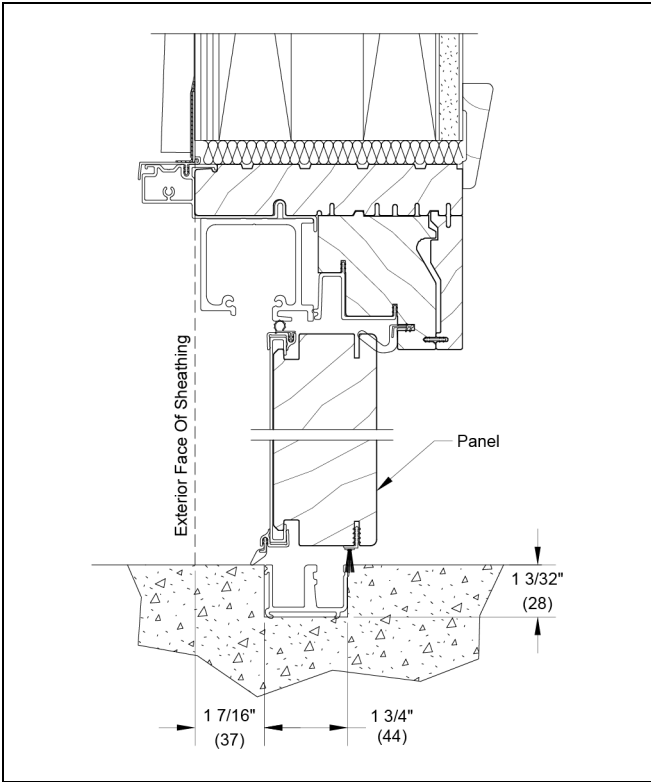
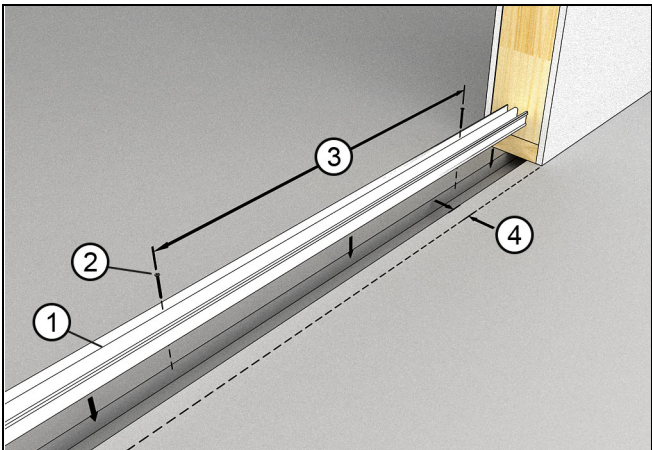

Figure 1
Figure 2 Floor channel installation (concrete shown)
1. For a floor channel sill, the sill track must be installed into the floor prior to frame assembly. The floor channel sill length matches the frame OM width and should be centered within the rough opening. Fasten with 1 1/2" length concrete fastener or panhead screws (depending on substrate) every 24" (610). See Figure 1 and Figure 2.